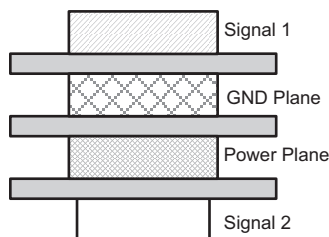

Figure 13. Four-Layer Board Stackup
- Due to high-frequency signals, a printed-circuit board with at least four layers is recommended; two signal layers separated by a ground and a power layer as shown in Figure 13.